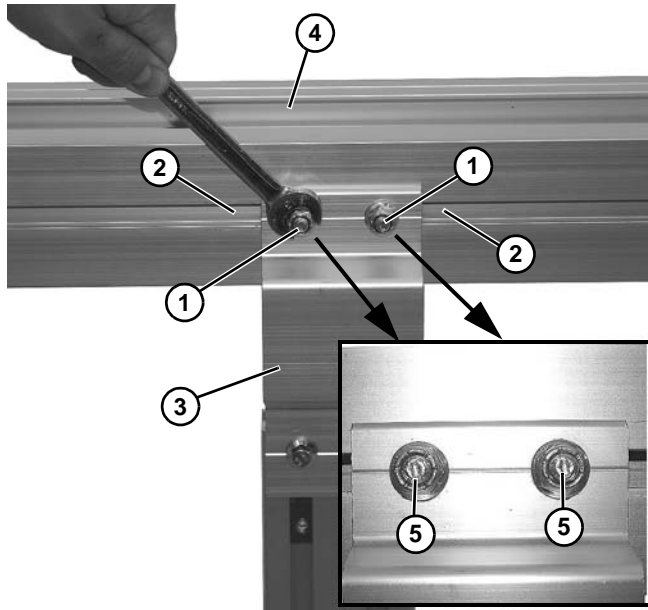

Figure 4
1. Insert studs (Figure 4, item 1) into conveyor side slots (Figure 4, item 2).
2. Install support post mounting bracket (Figure 4, item 3) onto two studs (Figure 4, item 1) installed on conveyor frame (Figure 4, item 4) with two nuts.
Be certain that slot (Figure 4, item 5) is close to vertical when finished tightening nut.